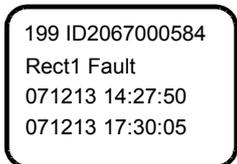

Figure 4-21 History alarm screen
- 2) If there is history alarm, the screen is shown in Figure 4-21.